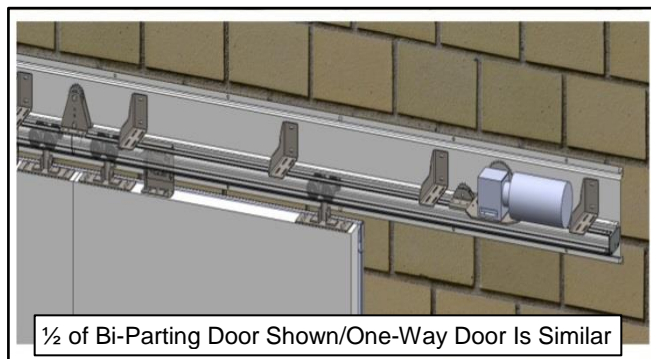

Figure 20
5. Check that all mounting hardware, such as nuts, bolts, and screws, etc., throughout the head assembly, drive motor, gearbox assembly, idler assembly, trolleys, mounting brackets, etc. are secure and tight. Tighten and replace any loose or missing hardware as necessary. (See Figure 20)